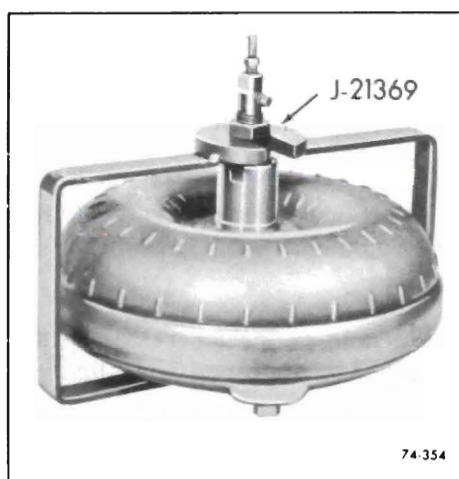

Figure 74-354
a. Install Tool J-21369 and tighten. See Figure 74-354.